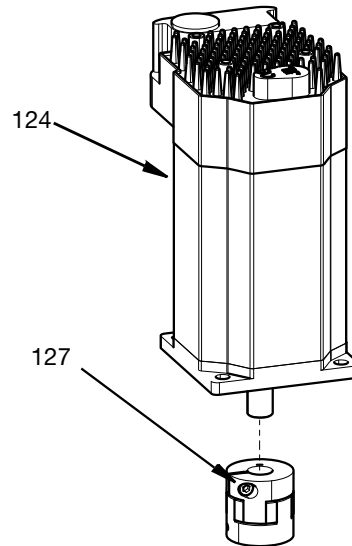

FIG. 55
7. Loosen the upper rotary coupling (127) clamp screw with a 2.5 mm allen wrench. NOTE: Do not use ball end allen wrench.
8. Remove the rotary coupling (127) from the motor shaft. See FIG. 55.